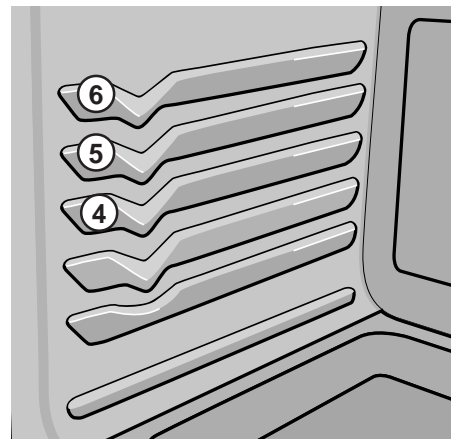

Fig. 2
2. Arrange the interior oven rack -p. 23 Figs. 2 & 3- for position recommendations. Be sure to place the prepared food and pan directly under broil burner. Close the oven door.